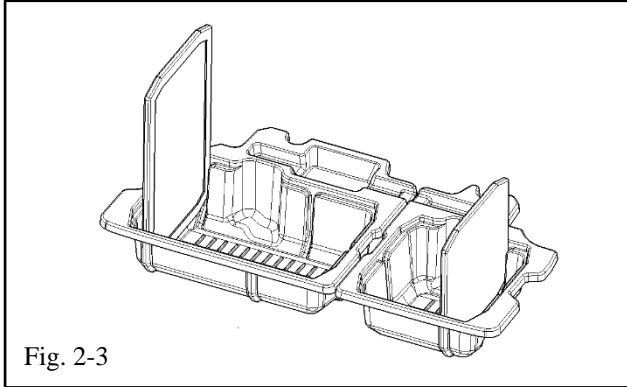

Fig. 2-3
- (c) The lids on the bins can be stored upright by lifting them up and sliding them into the slots on either side of each bin. (Fig 2-3).